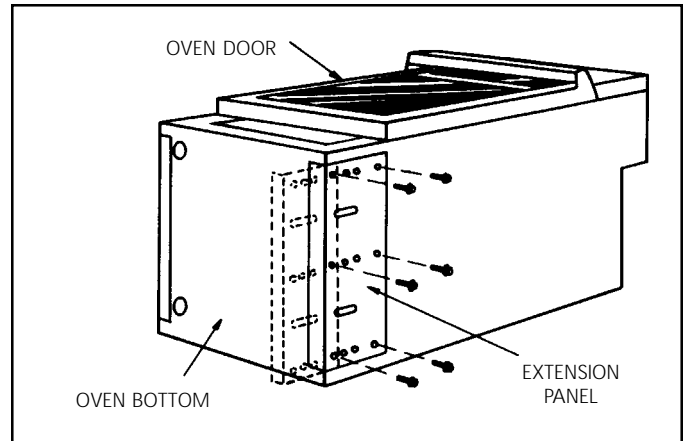

Figure 4
- A. Lay oven on its back. (see figure 4).